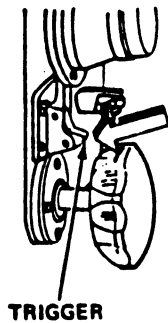

Fig 4-41. Trigger.
Step 4. Push the trigger in to fire the missile (fig 4-41).